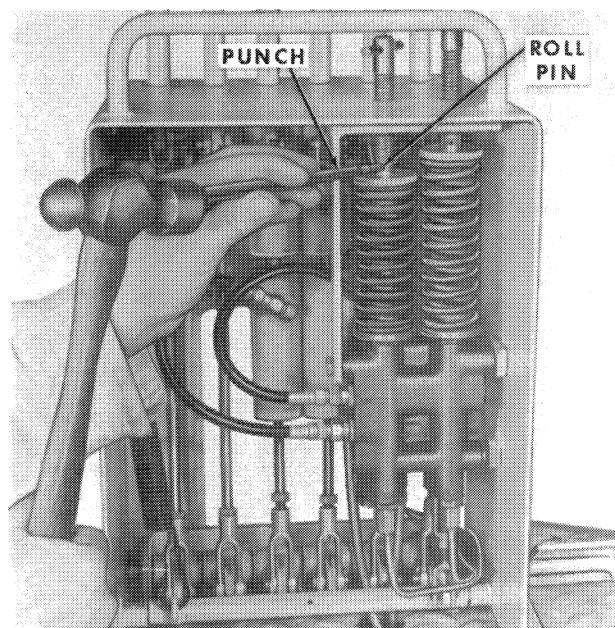

Figure 12
2. Remove the retaining pin, Figure 12, from both adjusting screws with a punch and hammer. Then remove the adjusting screws by turning counterclockwise.